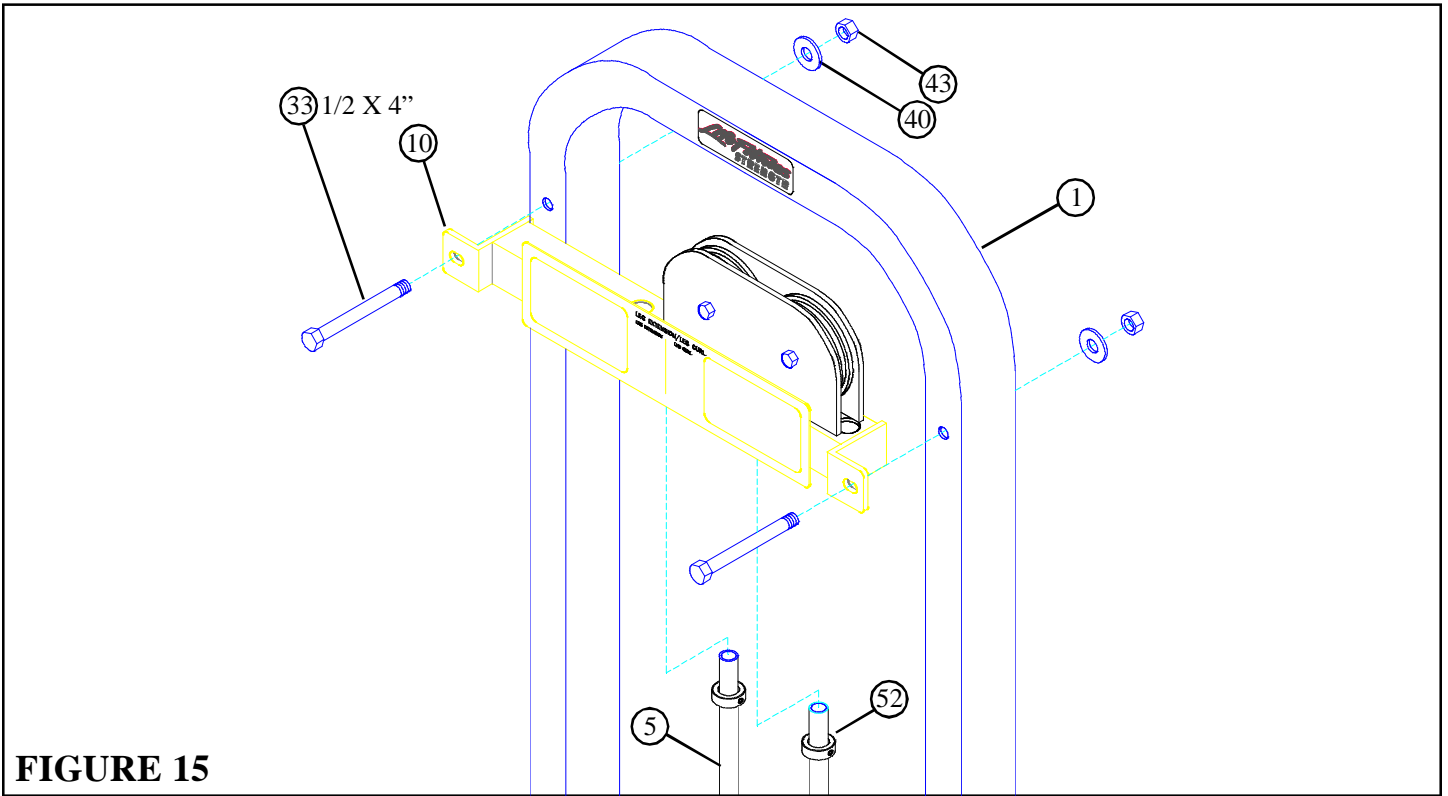

FIGURE 15
- Place TOWER BRACE (10) over the GUIDE RODS (5) and **SECURELY** assemble TOWER BRACE (10) to TOWER (1) using two 1/2 X 4" BOLTS (33), two 1/2" WASHERS (40), and two 1/2" LOCK NUTS (43) as shown in FIGURE 15.
- Slide the 13/16" SHAFT COLLARS (52) to the top of the GUIDE RODS (5) and **SECURELY** tighten the SHAFT COLLAR (52) set screws. See FIGURE 15.